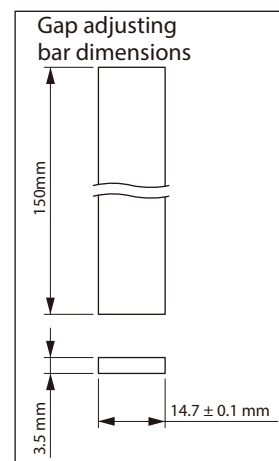

Figure 8-35
- (3) Insert the gap adjusting bar (customer to prepare an angle plate. See Figure 8-35) from between the outer disc [14] and the center ring [1] into a hole for a gap adjusting screw [2].